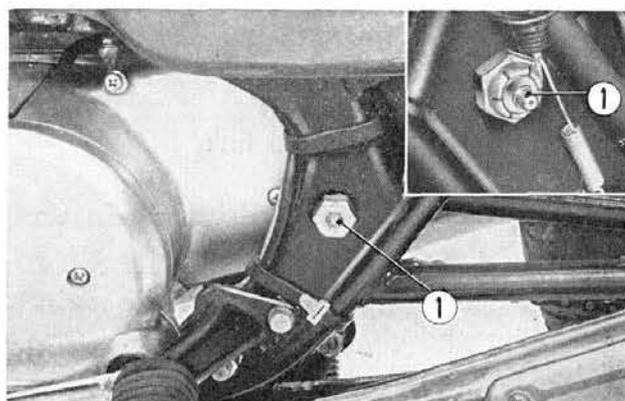

Fig. 19-18 ① Grease nipples
- (1) Lubricate grease nipples on the both side of the rear fork pivot shaft (Fig. 19-18) with **multi-purpose grease type NLGI No. 2** every 6 months or every 3000 miles (5000 km), whichever occurs first.
- (2) Check the following items and if there is any fault, correct before riding.